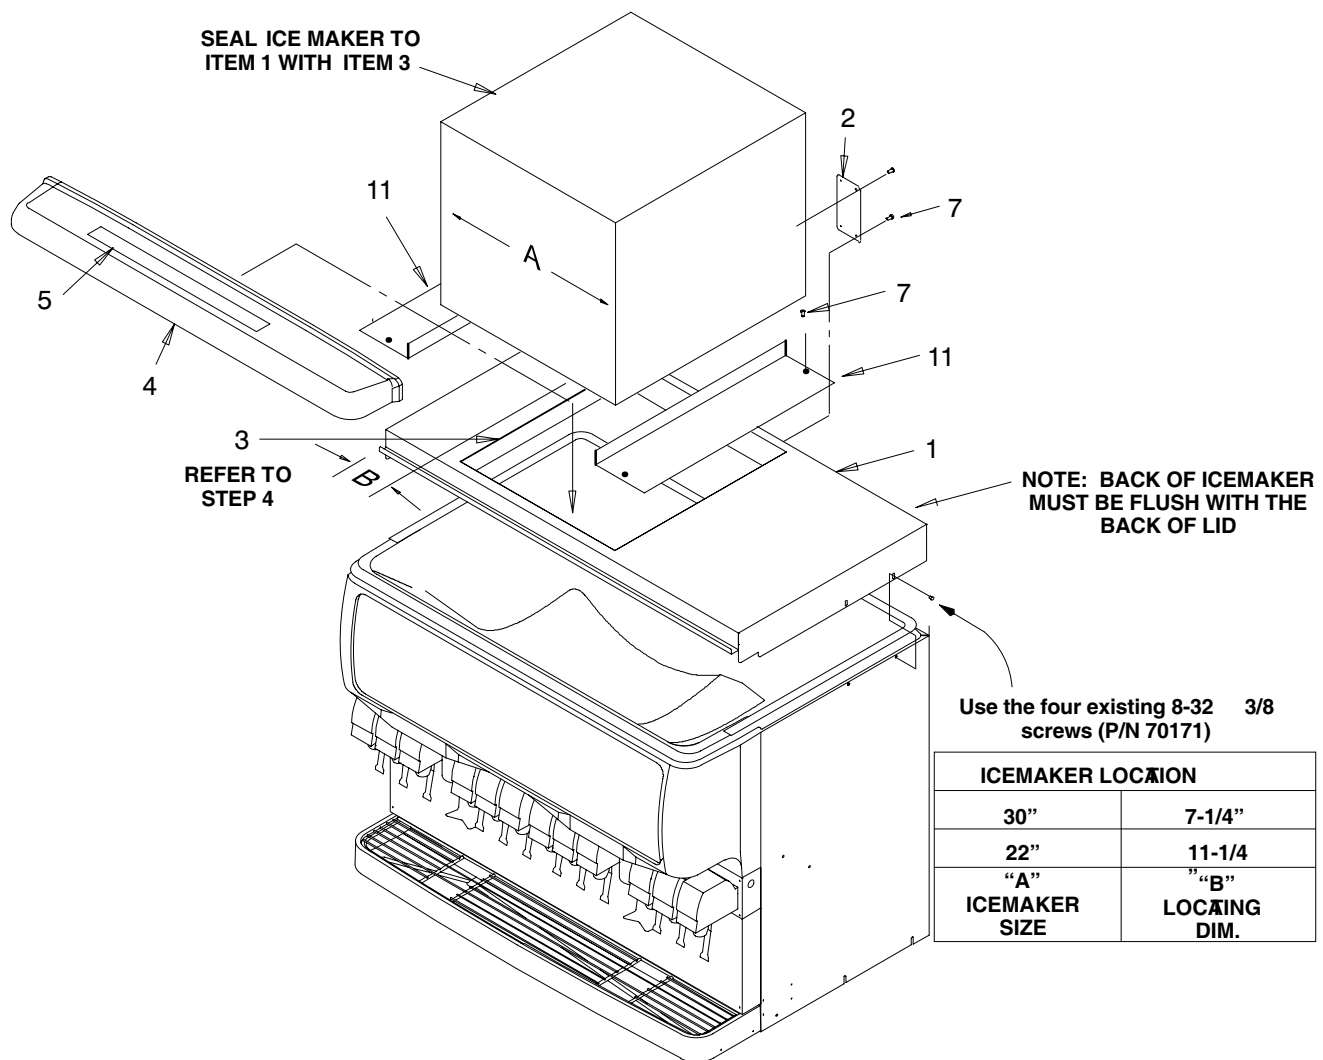

FIGURE 1. ED/DF300 Kit
5. Seal the ice maker to the top of the dispenser after determining the correct location for the ice maker (see Figure 1).
- Install the wire form bracket, supplied with the bin stat kit (item 4), through the 5/8" diameter hole in the bottom of the ice maker. Wrap the eye of the wireform over the stud near the hole to the end of the wireform bracket and wrap the tube around the end of the bracket several times, insuring the tube is secure.
- For 22-inch wide Icemakers, locate the lid opening covers (2) item 11 as shown in Figure 1. Secure the covers to the adapter lid by drilling .136 diameter holes into the lid. Use the covers as templates to locate the mounting holes. Secure the covers with the # 10 sheet metal screws.
- Locate the cleaning caution label (item 5) on the manual ice fill cover (item 4) as shown in Figure 1. Place the manual fill cover in position over the flange on the lid assembly and the front access hopper opening.